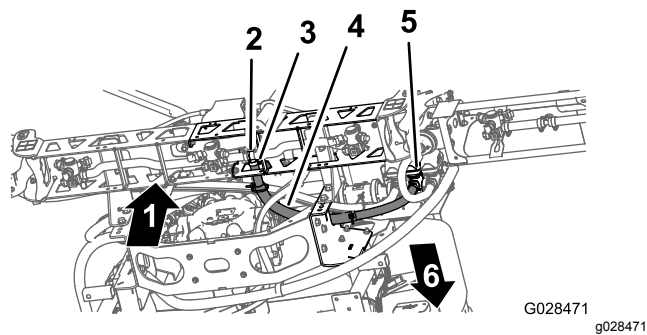

Figure 44
- 1. Route the center boom-section hose as shown in Figure 44.
2. Install the boom section hose over the barbed T-fitting at the center boom section and secure the hose with a hose clamp (Figure 44).